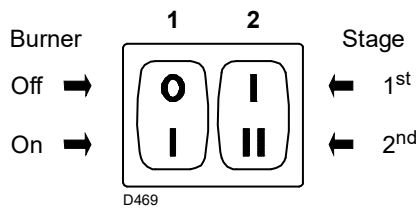
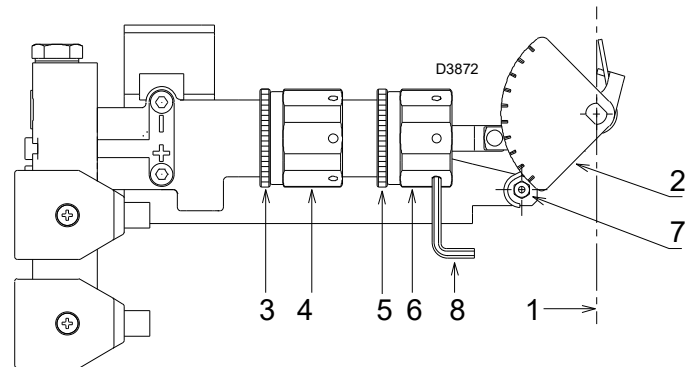

Fig. 22
Fig. 23
Set switch 1)(Fig. 22) to "ON".
Keep the burner operating at 1st stage by setting the switch 2)(Fig. 22) to the 1st stage position.
Opening of the air gate valve 1)(Fig. 23) must be adjusted in proportion to the selected nozzle: the index 7)(Fig. 23) must be aligned with the specified in Tab. I.
notch 22° aligned with index 7)(Fig. 23).
Set switch 2)(Fig. 22) to the 2nd stage position and adjust the air gate valve 1)(Fig. 23) by turning the hex element 6), after having loosened the ring nut 5).
in order to facilitate adjustment of hex elements 4) and 6)(Fig. 23 on page 23), use a 3 mmc Allen key 8)(Fig. 23 on page 23).